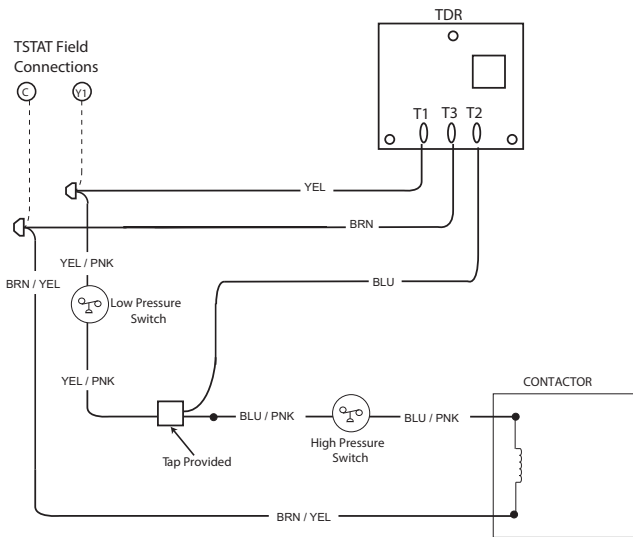

Fig. 5 - Two-Stage Non-Communicating LPS
- Two-stage non-communicating AC LPS run-wire is located just before quick connect connecting to high pressure switch (see Fig. 5).